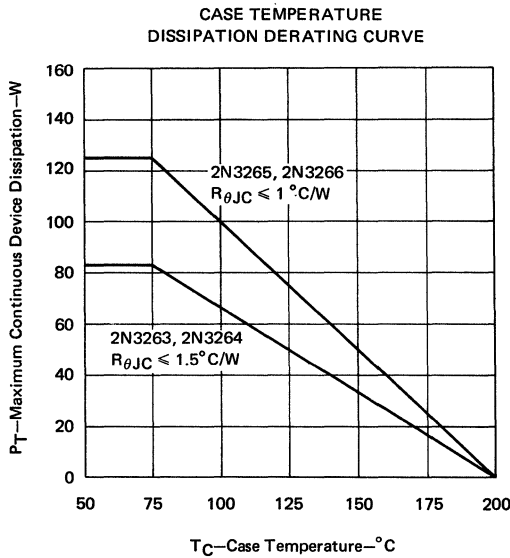

FIGURE 8
- For operation above 75°C case temperature, refer to Dissipation Derating Curve, Figure 8.
Safe Operating Region	See Figures 8 and 9